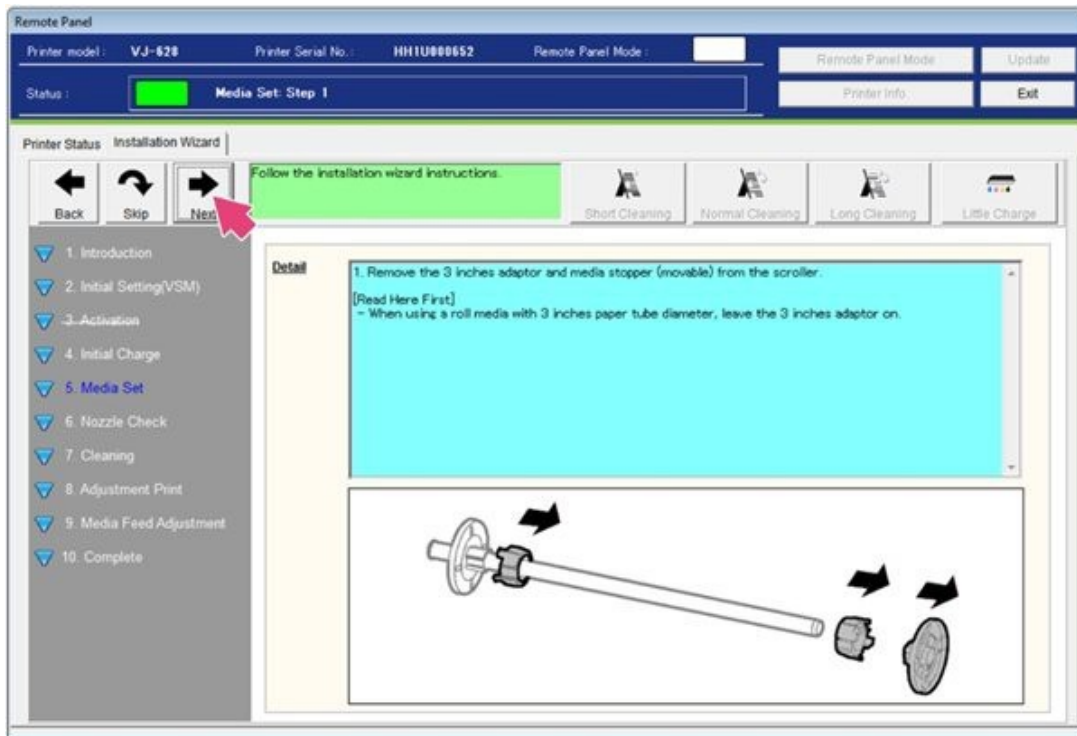

Figure 64
51. Remove the 3 inch adapter and media stopper from the scroller, then select **Next**. See Figure 64.